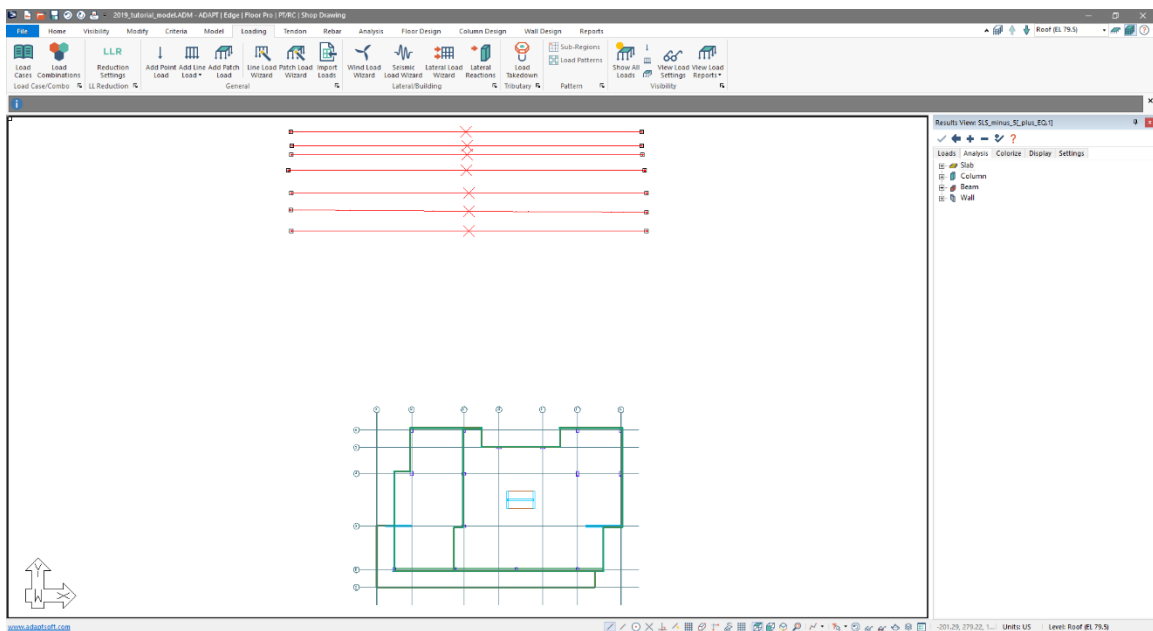

Figure 12-4
- Select the loads as shown in **FIGURE 12-4**, and click the **Delete** key on your keyboard.